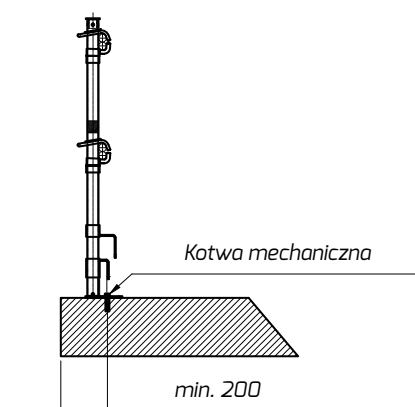

fig. 4
- Start the assembly by determining a line located at least **200 mm** from the ceiling edge. This is the minimum distance of the anchoring points. The railing will be installed along this line (fig. 4).